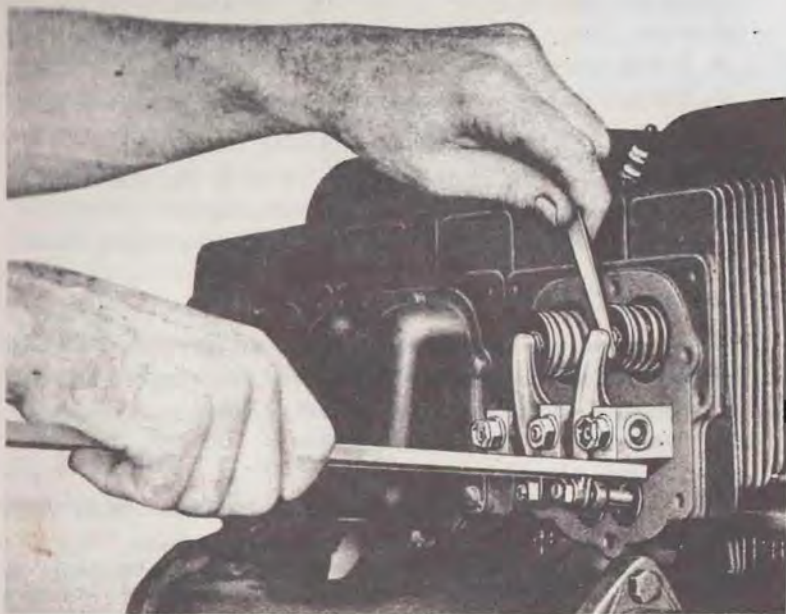

Figure 46—Bleeding Down Hydraulic Valve Lifters
- (a) With Franklin engine tool No. 11258, bleed all of the oil out of the lifter. Refer to figure 46. When engine tool No. 11258 is